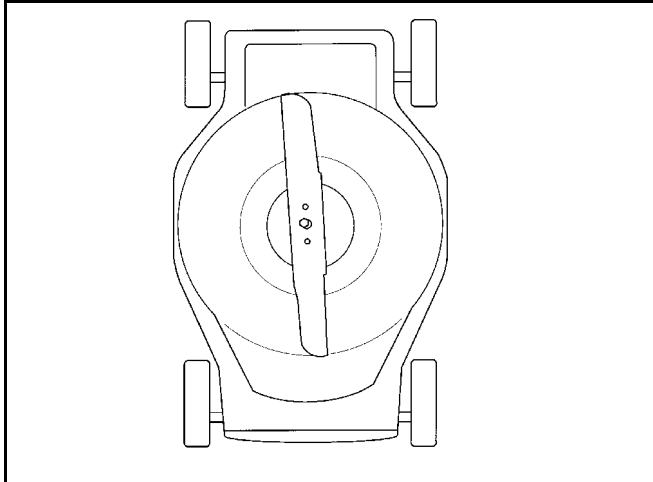

Figure 7
- Clean the underside of the mower housing. Be particularly careful to keep the front cavity clear of all debris (Figure 7). Remove dirt and grass clippings with a hardwood scraper. Avoid burrs and sharp edges.